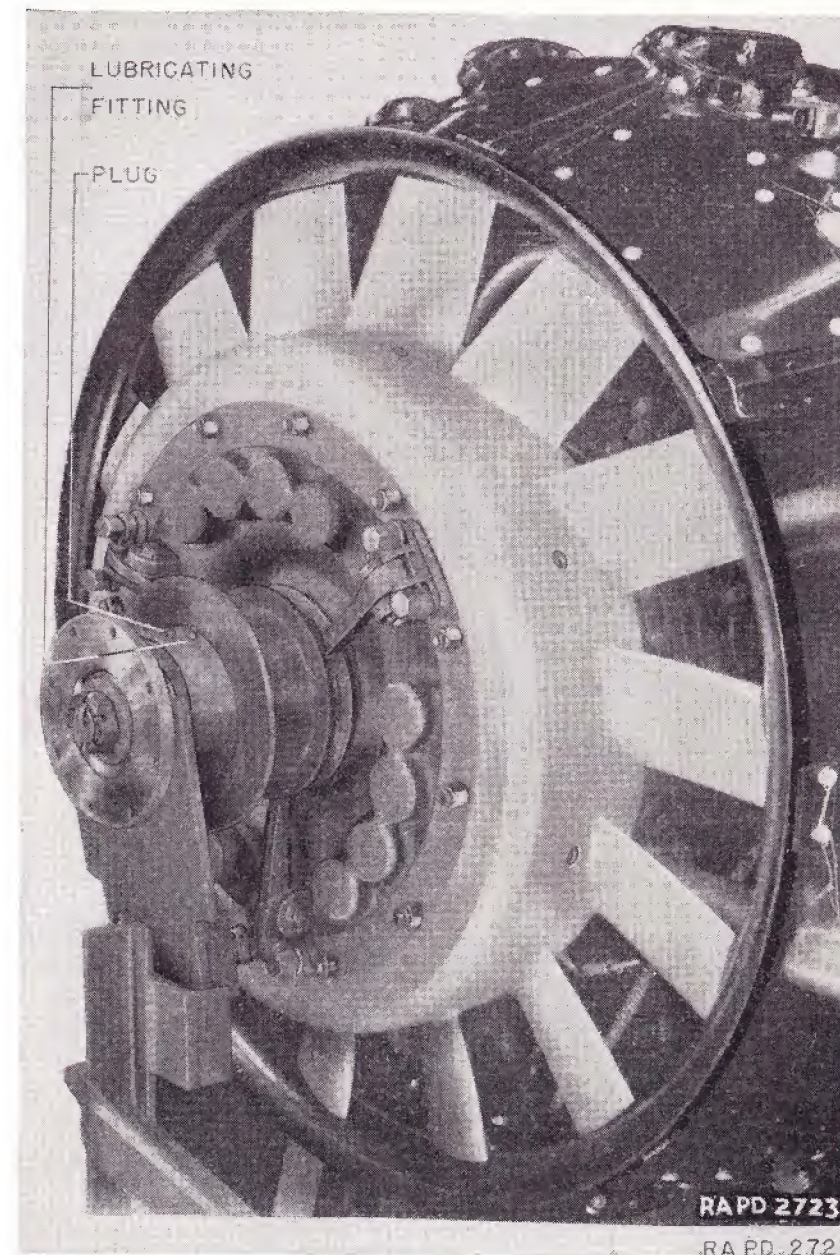

FIGURE 39.—Engine fan and clutch.
72. Care.—The clutch outer hub bearing (fig. 39) is greased as prescribed in figure 12. The clutch is disassembled and cleaned as shown in figure 41 at each 100-hour inspection.